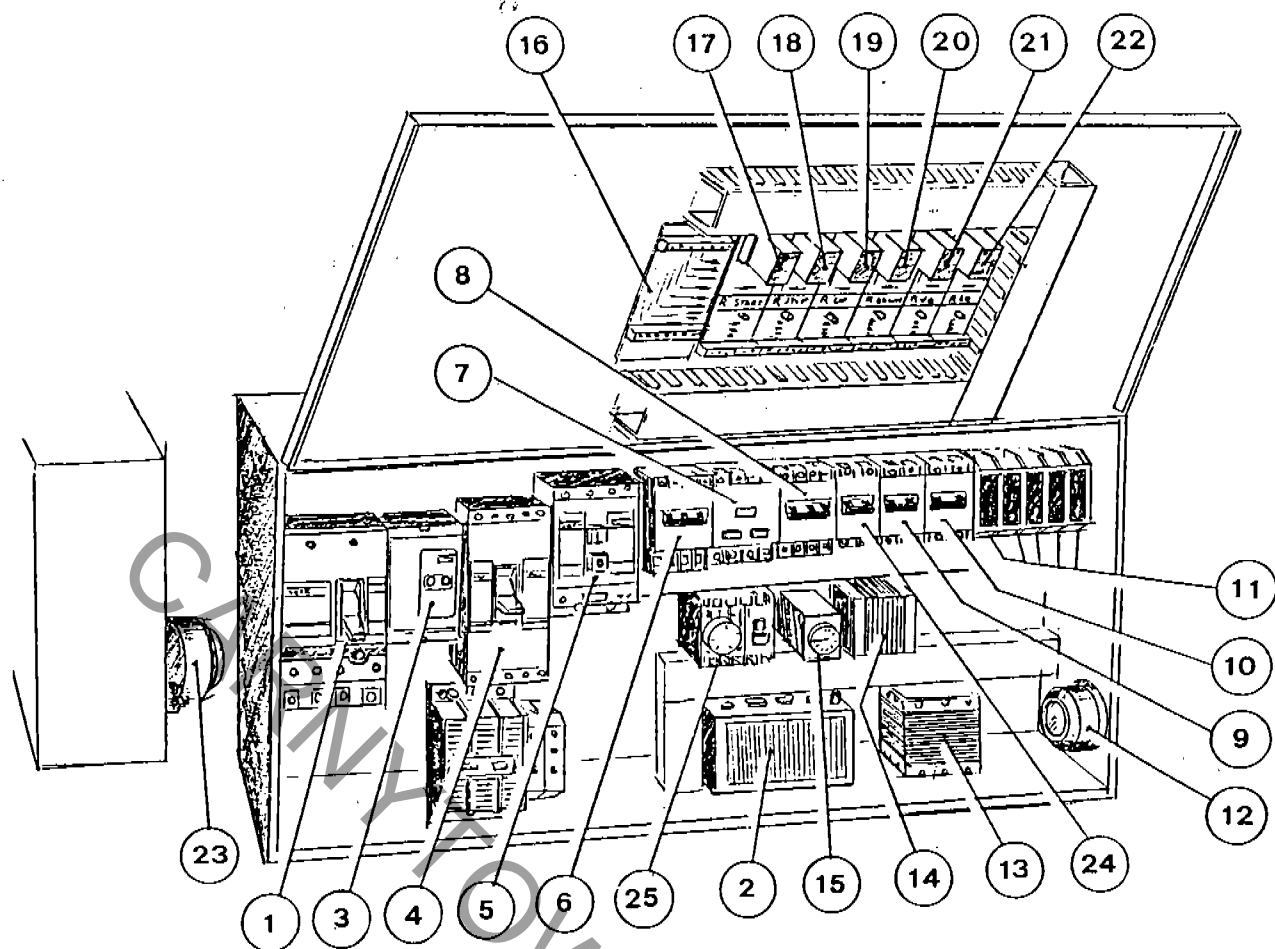

Fig. 10
**POWER DISTRIBUTION PANEL (Fig. 10)**
**NOTE: with switch open, a number of circuits are powered at 24V by the battery (2-Fig. 10).**
In case of fault currents it opens the main switch (1-Fig. 10).